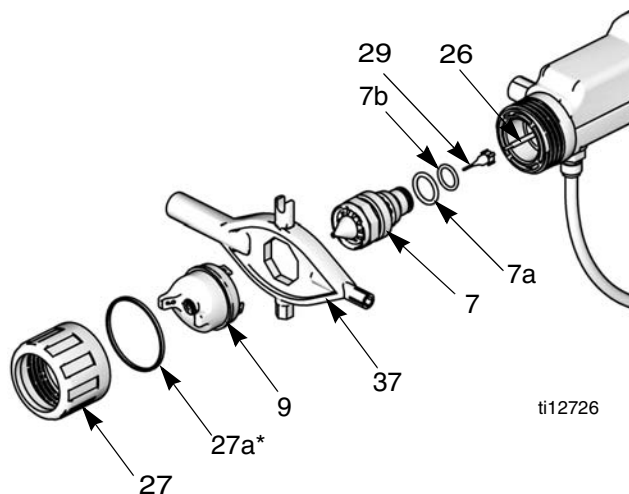

Fig. 13. Replace Air Cap/Nozzle
3. Remove the retaining ring (27) and air cap (9). See FIG. 13.
4. Point gun up and squeeze trigger while removing the fluid nozzle (7) assembly with the multi-tool (37).
3. Unscrew the fluid needle (29). Hold the packing rod end (26) to prevent it from turning, FIG. 13.